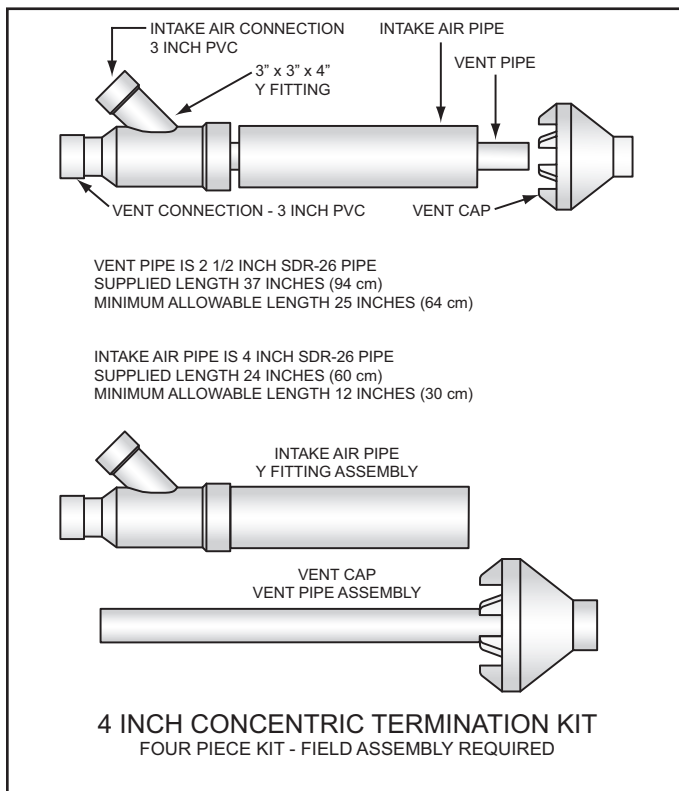
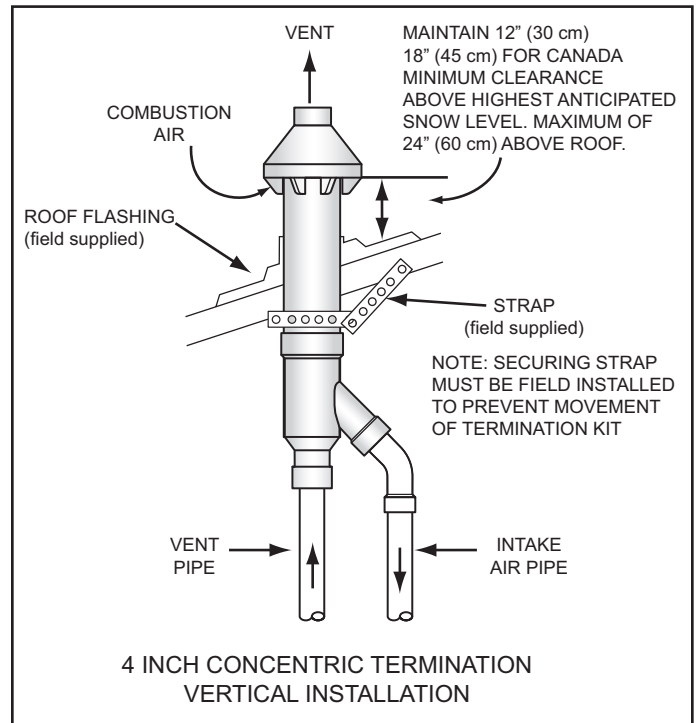
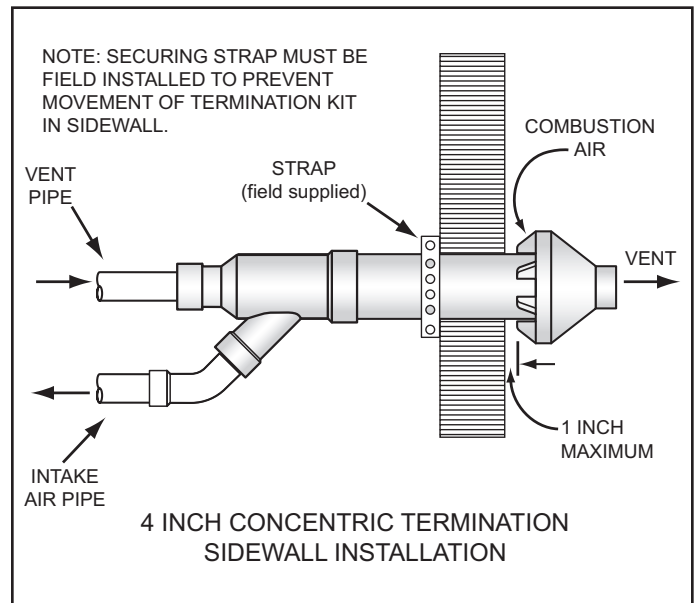

Figure 28
Figure 29
Figure 30
3. When installing a concentric termination vertically through the roof, ensure that all exterior vertical clearance requirements for the concentric termination, shown in Figure 29 on page 31 are being maintained. These clearances and those cited by local and national codes must be maintained.
See Figure 28 on page 31 for the minimum lengths allowed for the 4 inch concentric termination.
Assemble and install the 4 inch concentric termination. Refer to Figure 28, Figure 29 and Figure 30 for these instructions: